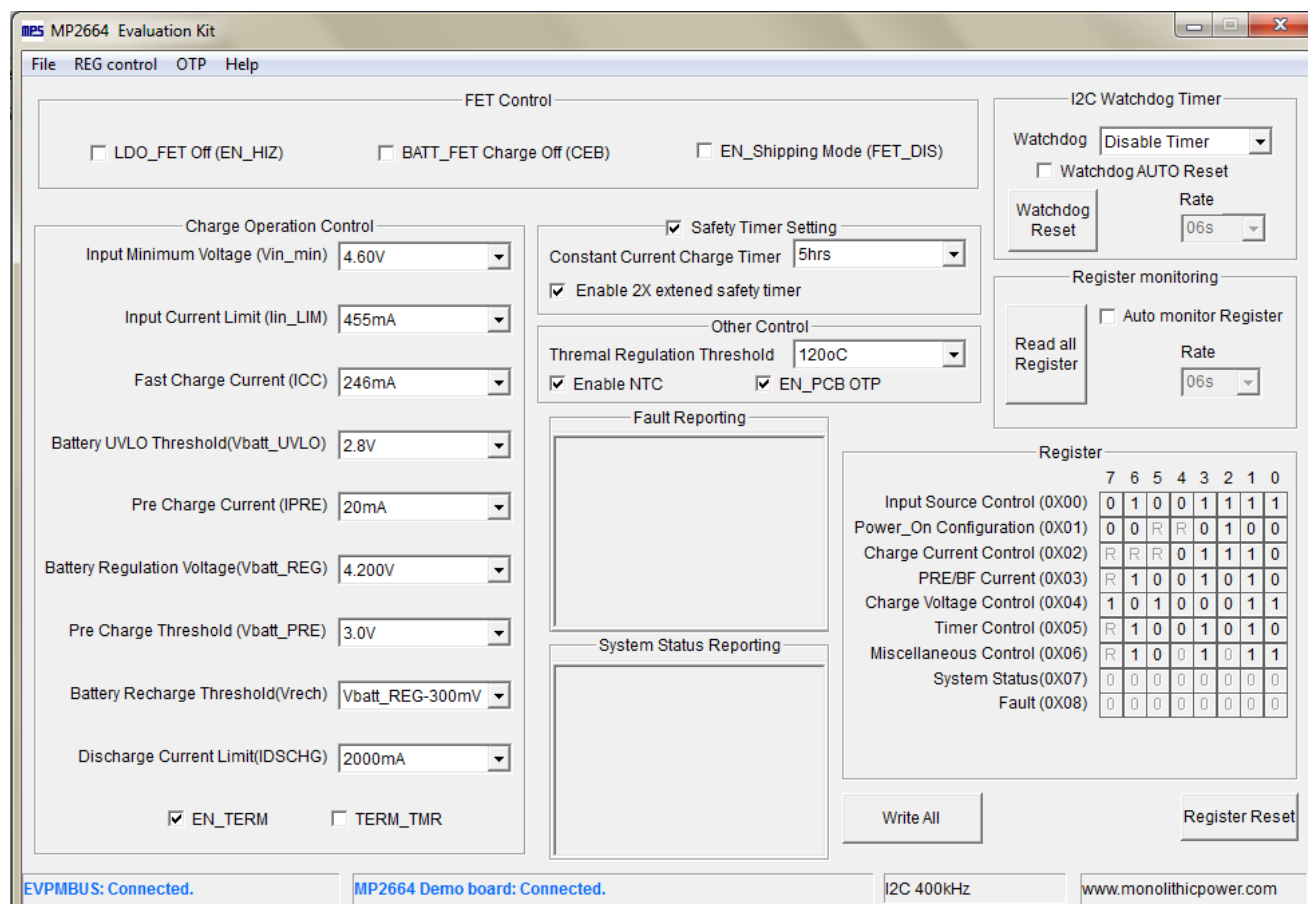

Figure 7: MP2664 evaluation interface
5) Turn on the computer. Launch the MP2664 evaluation software. The main window of the software is shown in Figure 7.